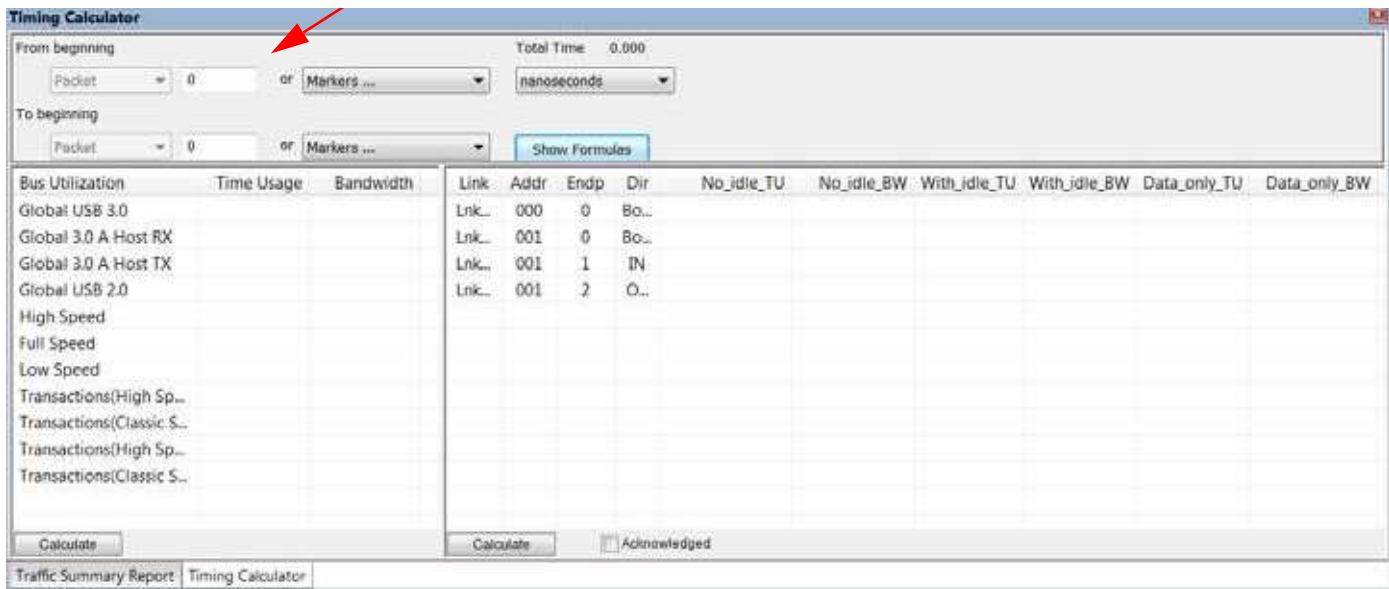

Figure 10.10: Timing Calculations Report
6. Click **Calculate** (see red arrow in Figure 10.10 on page 573) in the left side to display the Bus Utilization, Time Usage, and Bandwidth. Bus Utilization is: